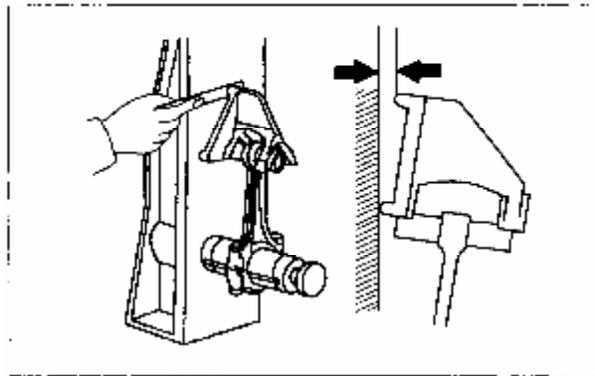
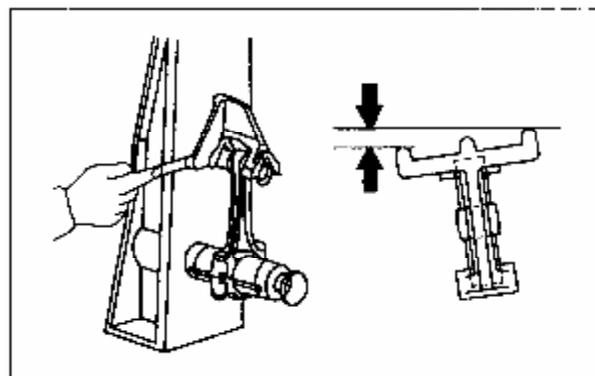

Figure 3-30 Check Bending Extent of Connecting Rod with a Connecting Rod Corrector
Figure 3-31 Check Distortion of Connecting Rod
**3.3.3** Check bending extent (see Figure 3-30) and distortion (see Figure 3-31) of connecting rod with a connecting rod corrector. Maximum bending extent: 0.05mm for every 100mm; maximum distortion: 0.05mm for every 100mm. If bending extent or distortion exceeds the maximum value, replace the connecting rod.